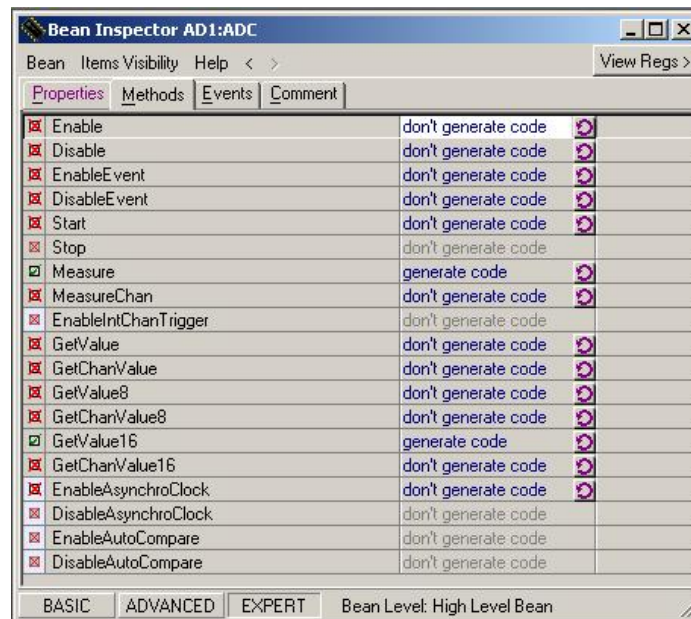

Figure 28. Bean Inspector window - Methods for ADC Bean
5. If needed select the Methods to create by selecting the Methods tab (Figure 28) in the Bean Inspector window. Click the round arrow button (). For this bean, the methods that can be used are: